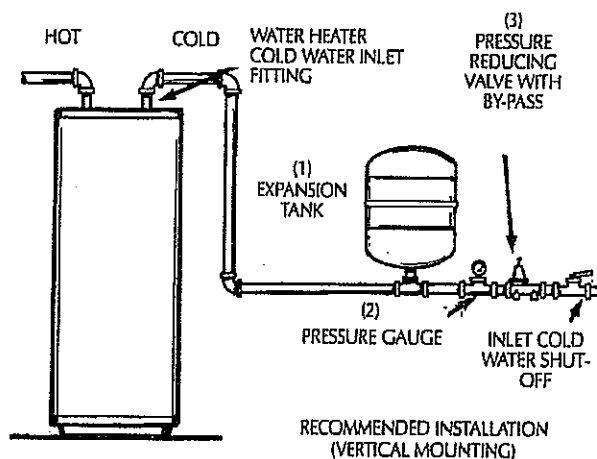
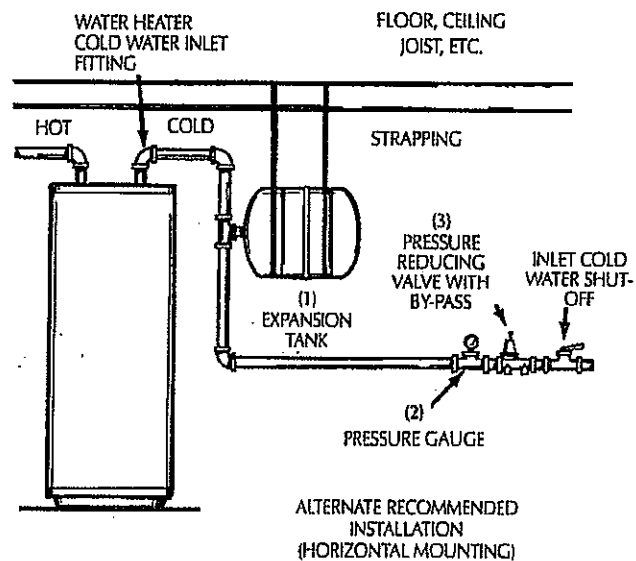

Figure 1
Figure 2
2. The items which must be installed in sequence in the cold water line are (1) the EXPANSION TANK must be installed at least 18 inches away from the cold water inlet fitting on the water heater, (2) the PRESSURE GAUGE, and (3) the PRESSURE REDUCING VALVE, if required. See Figure 1.
3. The expansion tank is designed to be supported by the system piping in the vertical position. If however, the expansion tank must be installed horizontally as shown in Figure 2, it must be supported by adequate strapping (not supplied).
Figures 1 and 2 on page 5 show the correct valves and fittings that you will need to install your expansion tank. A threaded (½") water connection is supplied on the tank bottom.
2. The expansion tank is designed to be supported by the system piping in the vertical position (See Figure 1). If however, the expansion tank must be installed horizontally as shown in Figure 2, it must be supported by adequate strapping (not supplied).
3. Install expansion tank, pressure gauge and pressure reducing valve, if required, as shown in Figure 1 or 2.